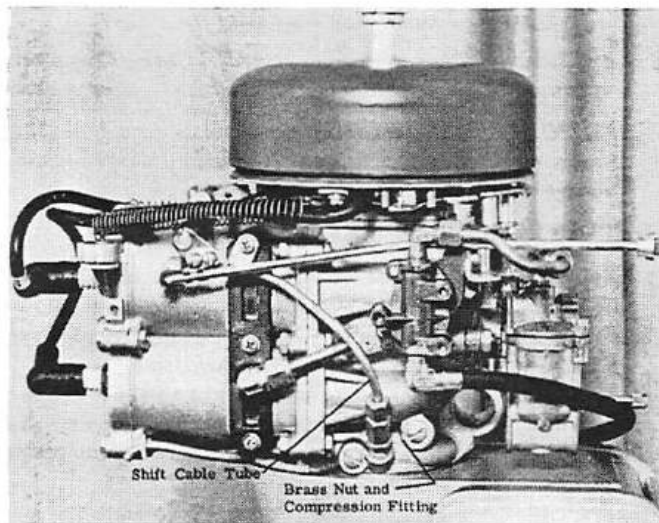

Figure 1. Removing Shift Cable Tube
4. Remove shift cable tube by removing brass nut connection and compression fitting at side of block. (Figure 1)